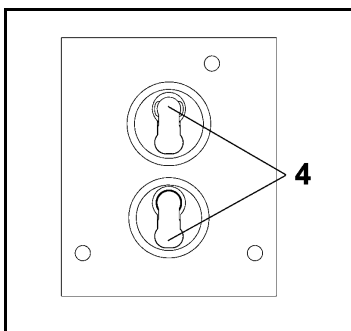

Fig. 7: Position of valve plates
1. Lay the new O-ring (18) on the adapter (14).
2. Lay the new valve plates (fig. 7/4) and the new O-rings (5) on the intermediate plates (3), (7) and (8).